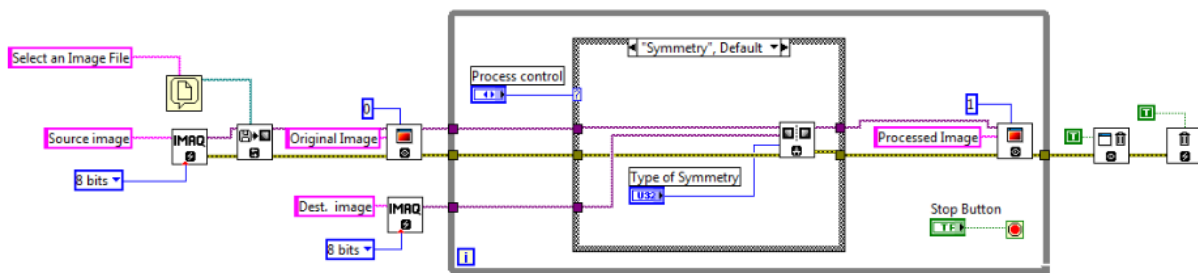

Figure 16: Block Diagram of Example 4
5. Build a **Block Diagram** as illustrated Figure 16 by executing the following steps.
20. Complete the wiring as illustrated in Figure 16.